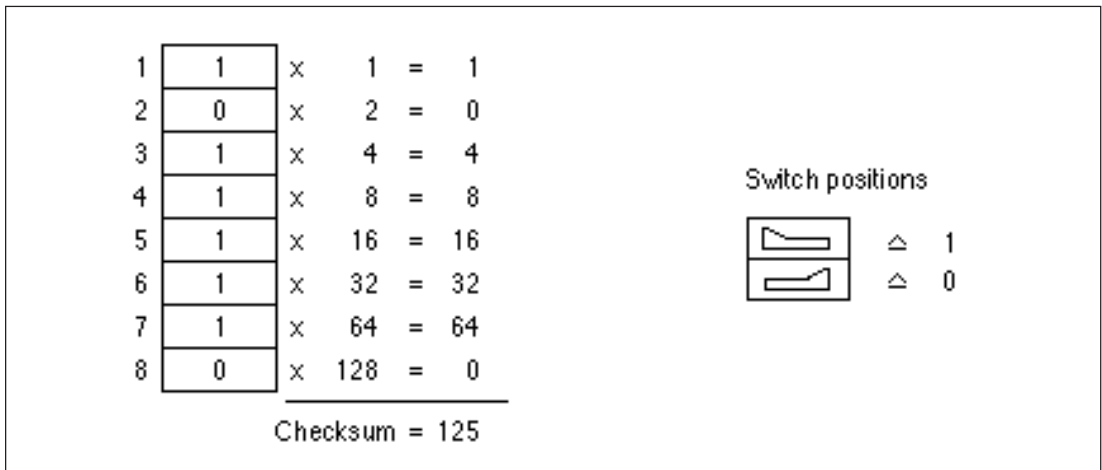

Fig. 2. Example of calculating the checksum of programming switchgroup SG1.
**Programming switches SG1**      Part of the settings and the selections of the operating characteristics for the relay modules in various applications are made with the programming switches SG1 on the front panel. The indicator of the switchgroup glows when the checksum of the switchgroup is shown on the display. The checksum can be used for checking that the switches are properly set. Fig. 2 gives an example of calculating the checksum.